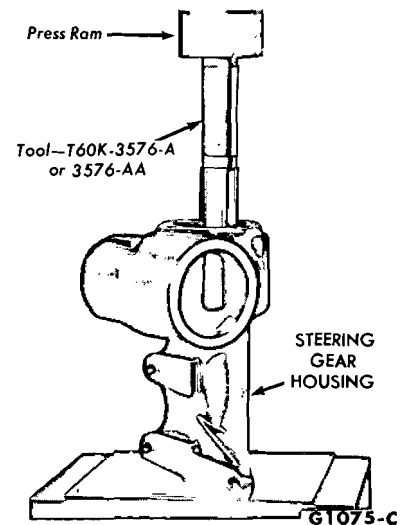

FIG. 10—Installing Sector Shaft Bearing
1. If the sector shaft bearings have been removed, press new bearings into the housing (Fig. 10).